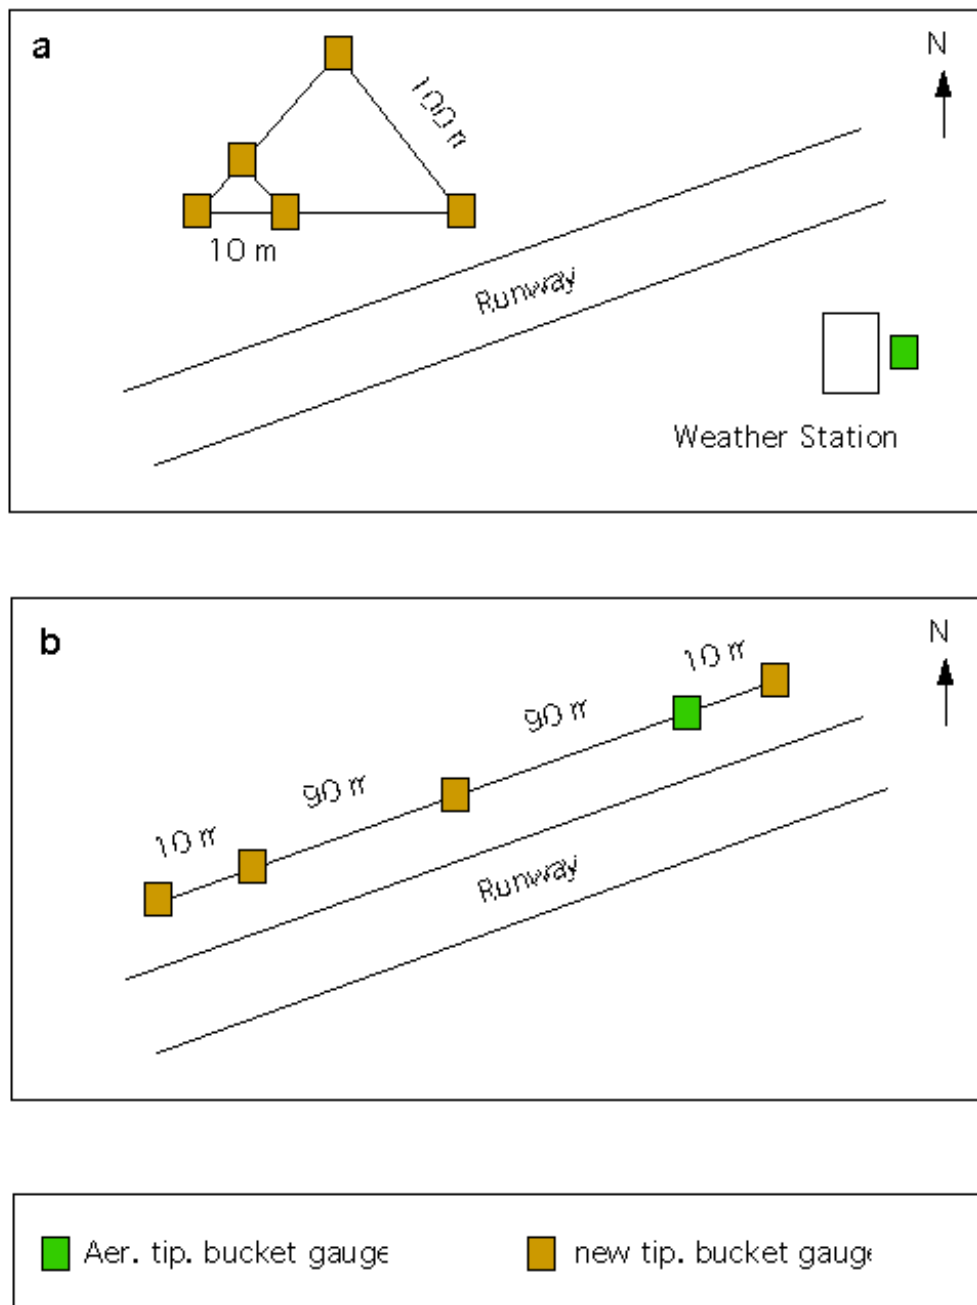

Fig. 4. The configuration of gauge clusters in Kwajalein (a), and Roi-Namur (b).
During KWAJEX, the Aeromet Inc and RMI-WS will continue to operate the gauges as they have in the past for the TRMM Kwajalein GV network. In addition, 24 new tipping bucket gauges will be installed and operated. More specifically, the RMI-WS will install 6 new gauges next to the existing gauges at the following sites: Namu-Majkin, Namu-Namu, Namu-Loen, Kwajalein-Mejatio, Kwajalein-Yabbaernohr, Kwajalein-Biggarenn. TRMM principal investigator (PI) personnel will install two tipping bucket gauges next to the upper-air sounding sites at Lae-Lae, and Woja-Ailinglaplap. The RMI-WS will be responsible for the operation of these 8 new gauges during the experiment. TRMM PI personnel will install 16 more gauges at the following Kwajalein sites: Carlos, Gagan, Legan, Illeginni, Meck, Kwajalein (5), Roi-Namur (4), Gellinam (2). The first five of these new gauges will be located next to the existing gauges. A cluster of gauges will be at Kwajalein and Roi-Namur. The configuration of these gauge clusters is given in Fig. 4. The Aeromet Inc. will assist in the operation of these additional new gauges. The PI personnel will dismount all the gauges that they installed. All 24 new tipping bucket gauges will use a temporary wooden base of about 16x16" and 6" high. Two tipping bucket rain gauges will be on reserve during the experiment. The spare units will be kept at the project office.